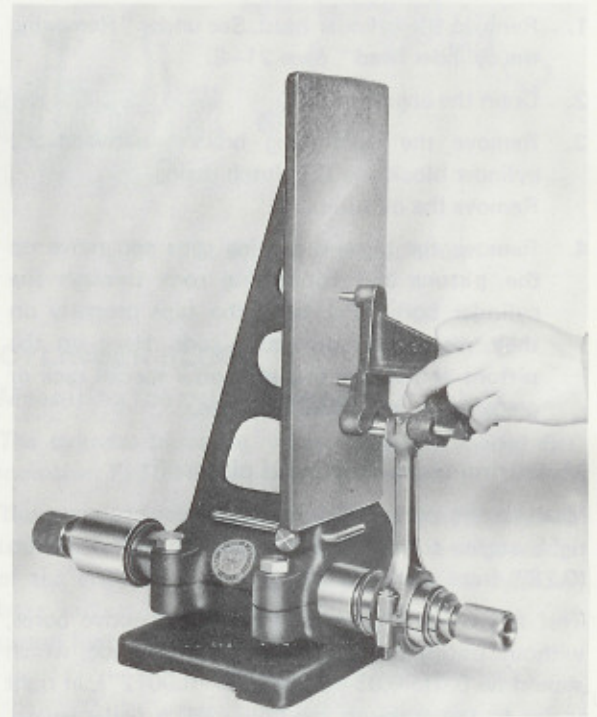

Fig. 21-31. Checking the connecting rod
5. If necessary check the connecting rods for straightness and warp, Fig. 21-31.